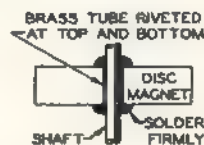

FIG. 3
5. Another case of wandering neutral (in a proportional ship this time) was traced to the disc magnet of the actuator becoming slightly loose on the shaft; when the magnet was held firm, the shaft could be turned enough to move the rudder back and forth a quarter inch or so. Soldering to these magnets is something of a problem, since the magnetic material is of a type that doesn't take solder too readily. It's best to use good strong acid flux (clean the joint carefully after it is made); another good trick is to put a piece of brass tubing through the hole in the magnet—in those cases where the magnet has no center of soft metal—"rivet" the tubing over on top and bottom, then put the shaft through the brass tube and solder the whole works together. See Fig. 3.